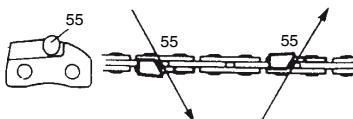

Fig. 45
File (55) cutter on one side of the chain from the inside out. File on forward stroke only. (Fig. 45)